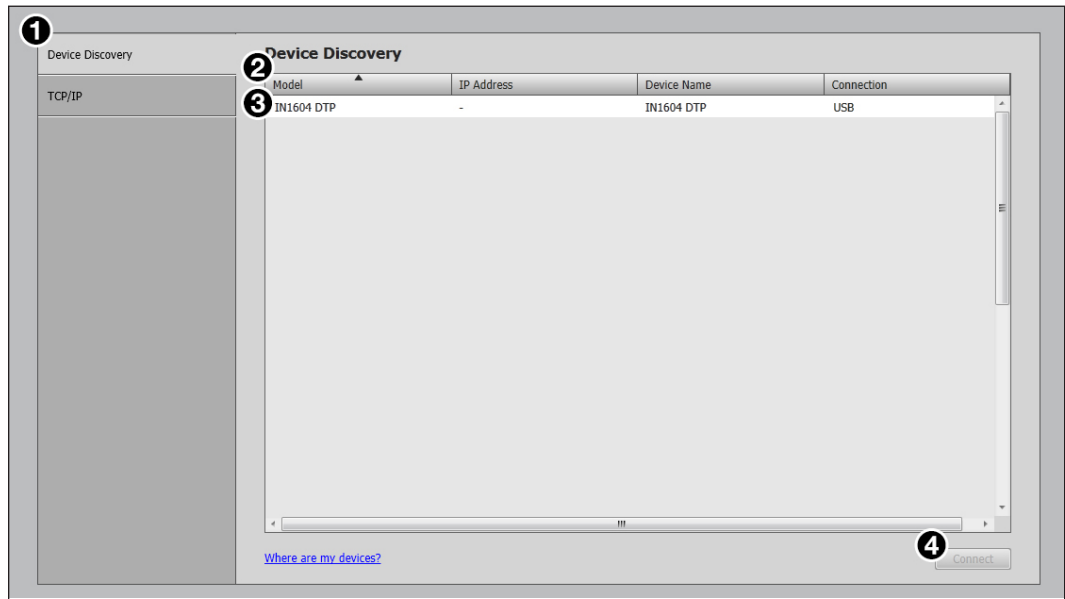

Figure 24. Device Discovery Panel
1. Click the **Device Discovery** tab (see figure 24, **1**).